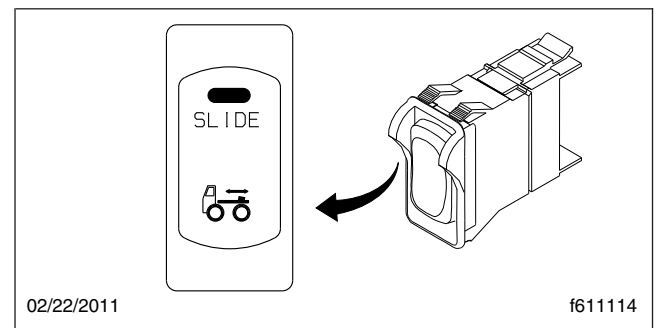
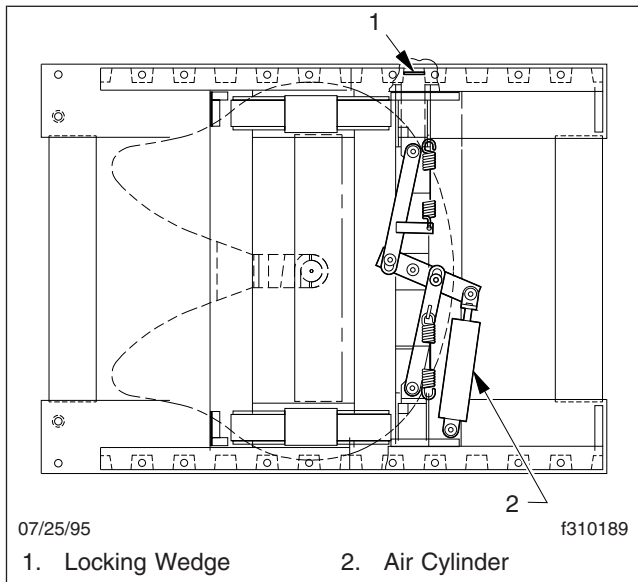

Fig. 17.14, Air-Slide Switch
Fig. 17.15, Air-Operated Sliding Fifth Wheel, Fontaine
The slide feature may be operated with a dash-mounted air-slide switch that operates an air cylinder that locks and unlocks the slide. See Fig. 17.14.
1. Set the air-slide switch to SLIDE. See Fig. 17.14. Ensure the locking plungers have released. See Fig. 17.15.